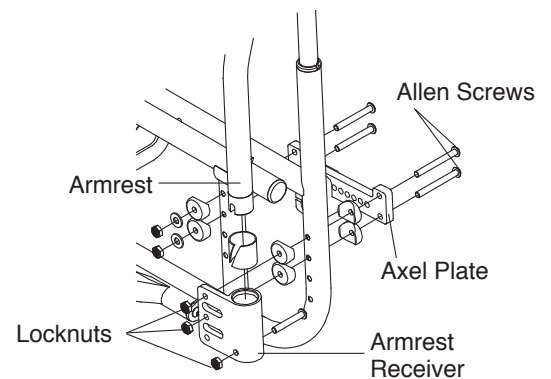

Figure 31
2. Remove the two Allen Screws that pass through the frame, the armrest receiver and the various washers and locknuts. The two Allen Screws also may pass through the axle plate. See Figure 31.